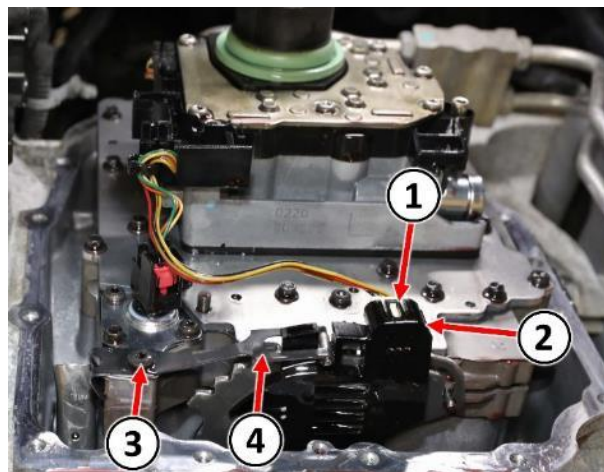

**Figure 13 – Range Sensor Connector and Detent Spring**
21. Disconnect the electrical connector (1) from the range sensor (2) (Figure 13).
22. Remove the T25 bolt (3) holding the detent spring (4) (Figure 13).
23. Remove the detent spring (4) (Figure 13).